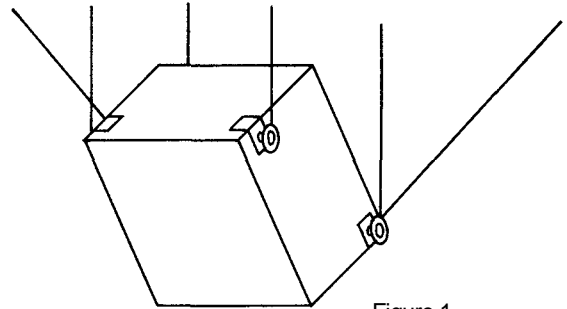

Figure 1
- For maximum security, the use of a 6-point suspension method such as shown in Figure 1 is highly recommended.